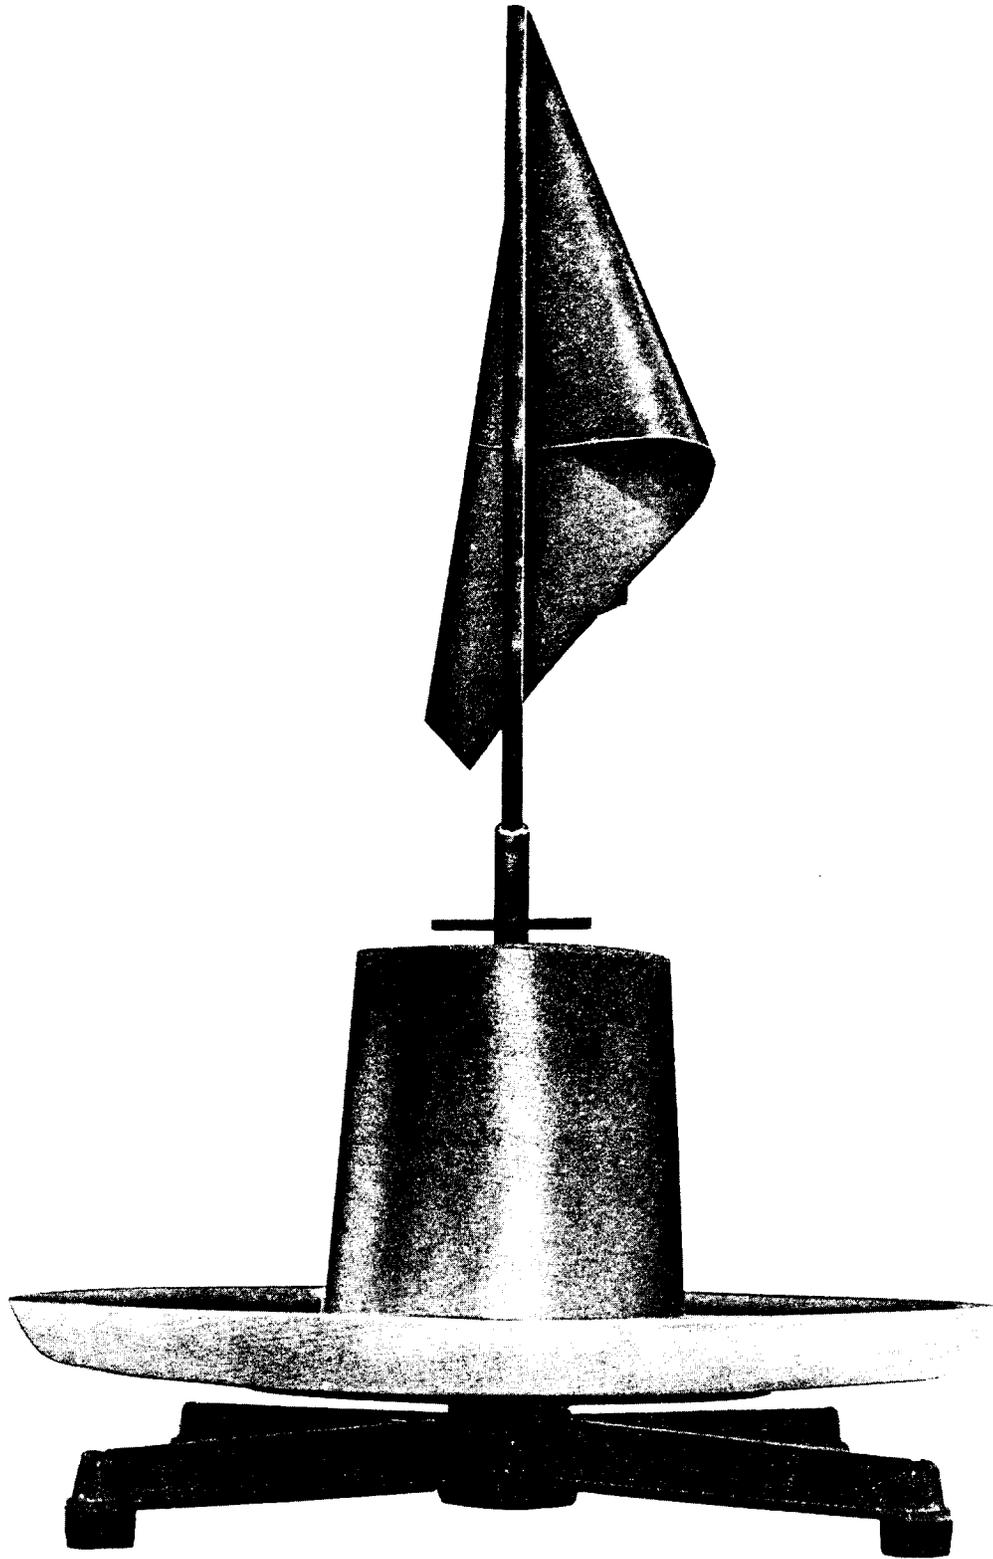

Fig. 6—AT-8890 B Cable Dispenser
3.03 Inside wiring cable or connector cable can be dispensed using the AT-8890 B cable dispenser (Fig. 6). The hub of the dispenser is designed to dispense 25- to 100-pair connector cable in loose coils up to 200 feet in length. The cable can be dispensed from